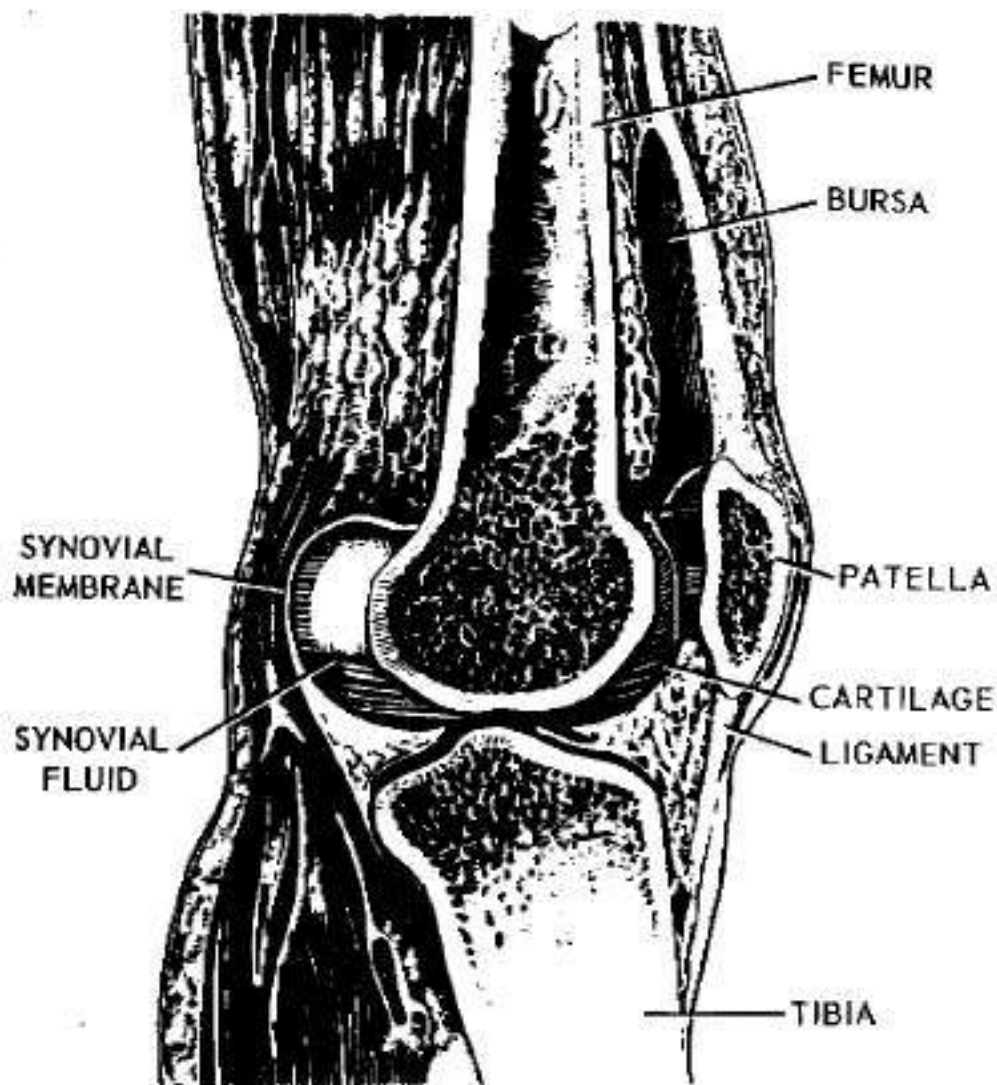

Figure 12-2. The knee joint and its parts.
(1) Most joints of the human body are inside a fibrous joint capsule. Cartilage is found in the capsule at the tips of the ones which meet there. Cartilage acts as a cushion between the bones and helps to reduce friction in the joint. Lining the inside of this capsule is the synovial membrane (fig 12-2). Fluid secreted by the membrane aids in cushioning and lubricating the joint. On the outside of this capsule are tough connective tissues, known as